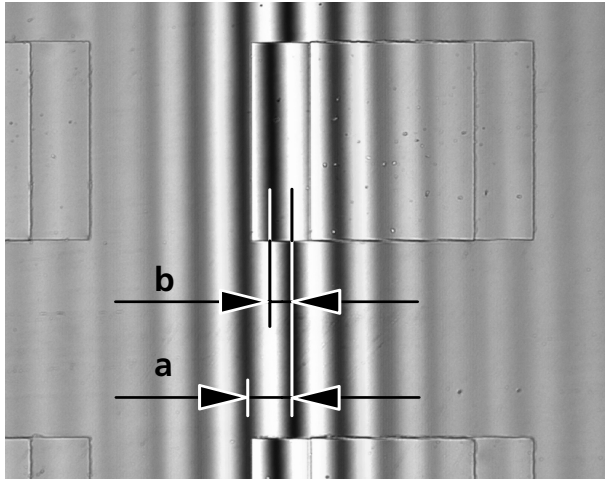

Fig. 4-133 Interference fringe pattern
(2) Instrument equipment
(3) Setting reflected-light TIC
- To select the structure to be measured, turn control wheel (4-132/1) of TIC slider or modulator turret until the interference fringe system is vertical to the splitting direction of the specimen (see Fig 4-133). The interference fringes can be shifted by means of setscrew (4-132/2) of the TIC slider or the modulator turret.
The values for a and b (see Fig. 4-133) are determined using the eyepiece reticle or the micrometer eyepiece.